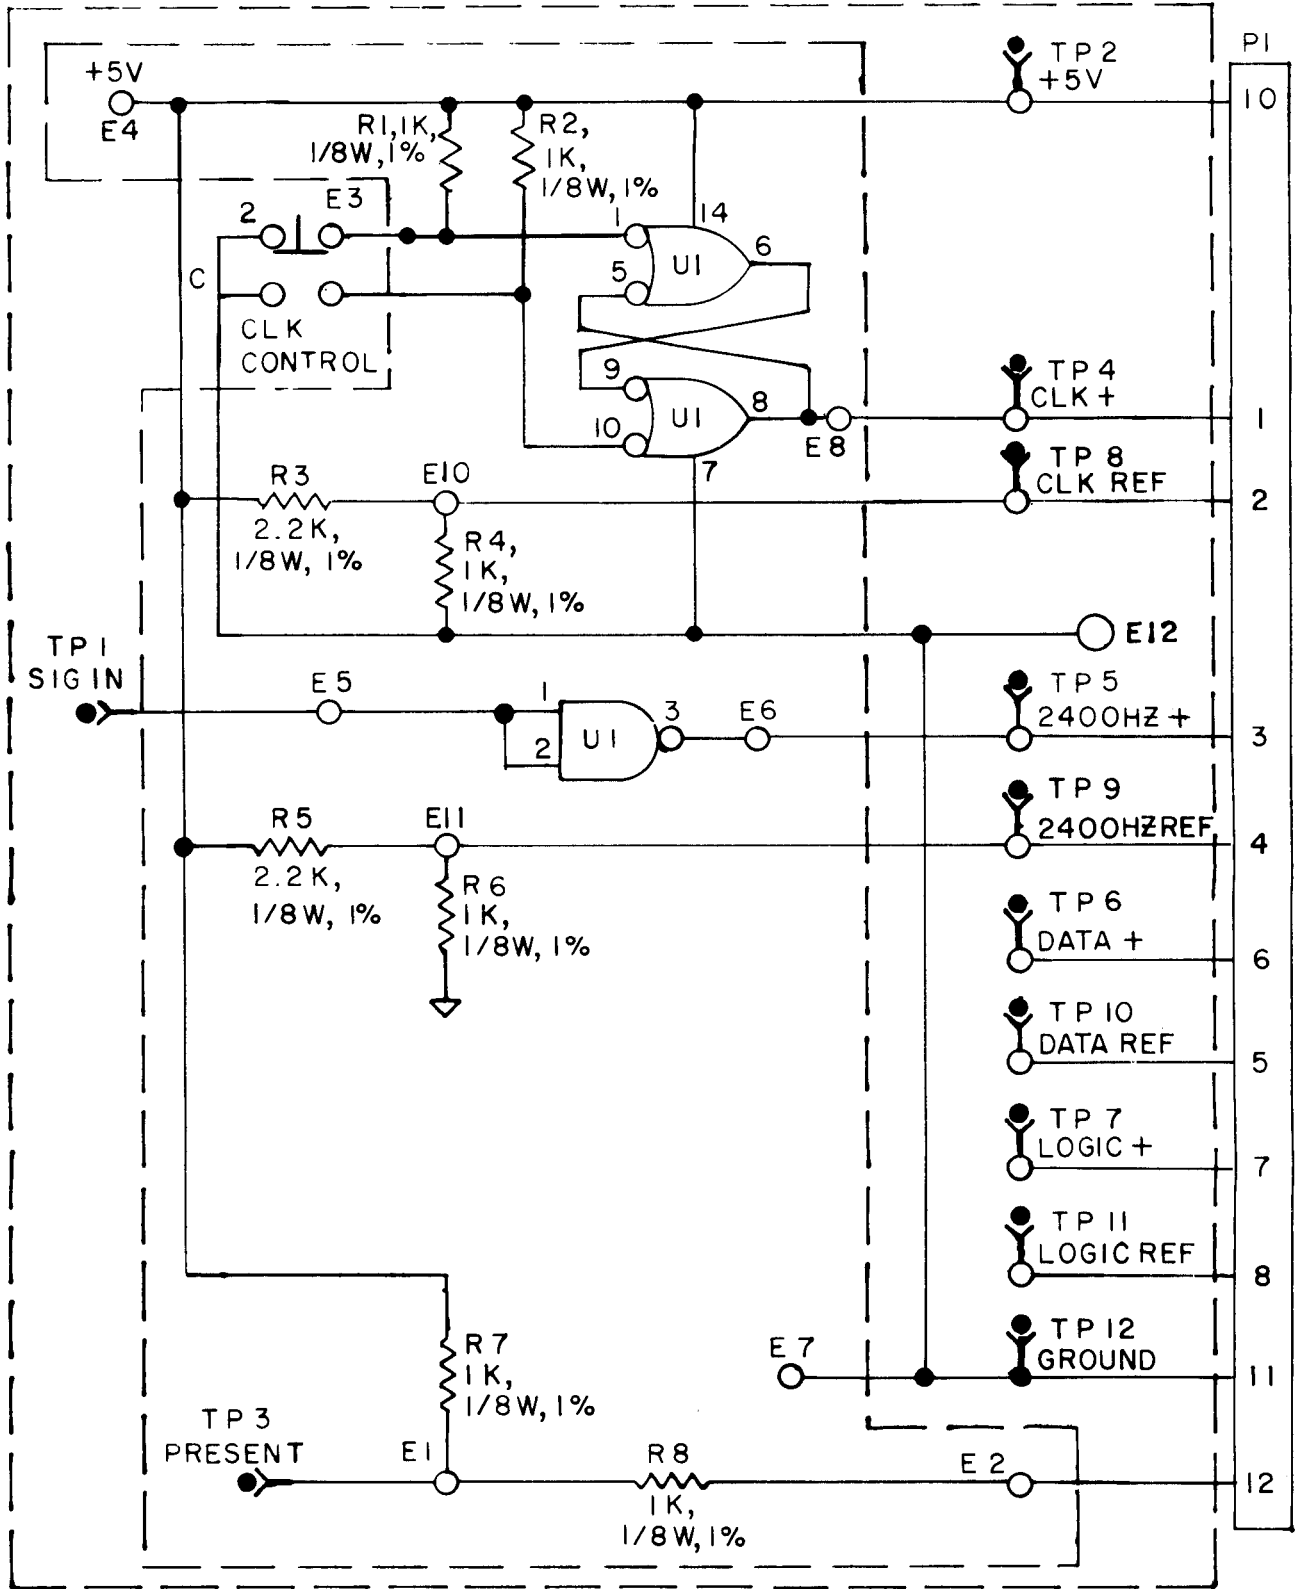

Figure 6-46. KEYSWITCH ASSEMBLY TEST FIXTURE, SCHEMATIC DIAGRAM.
- In the event of failure in any one of the above steps, refer to keyswitch assembly test fixture schematic (fig. 6-46), and theory of operation in chapter 3 of this manual and troubleshoot as required.